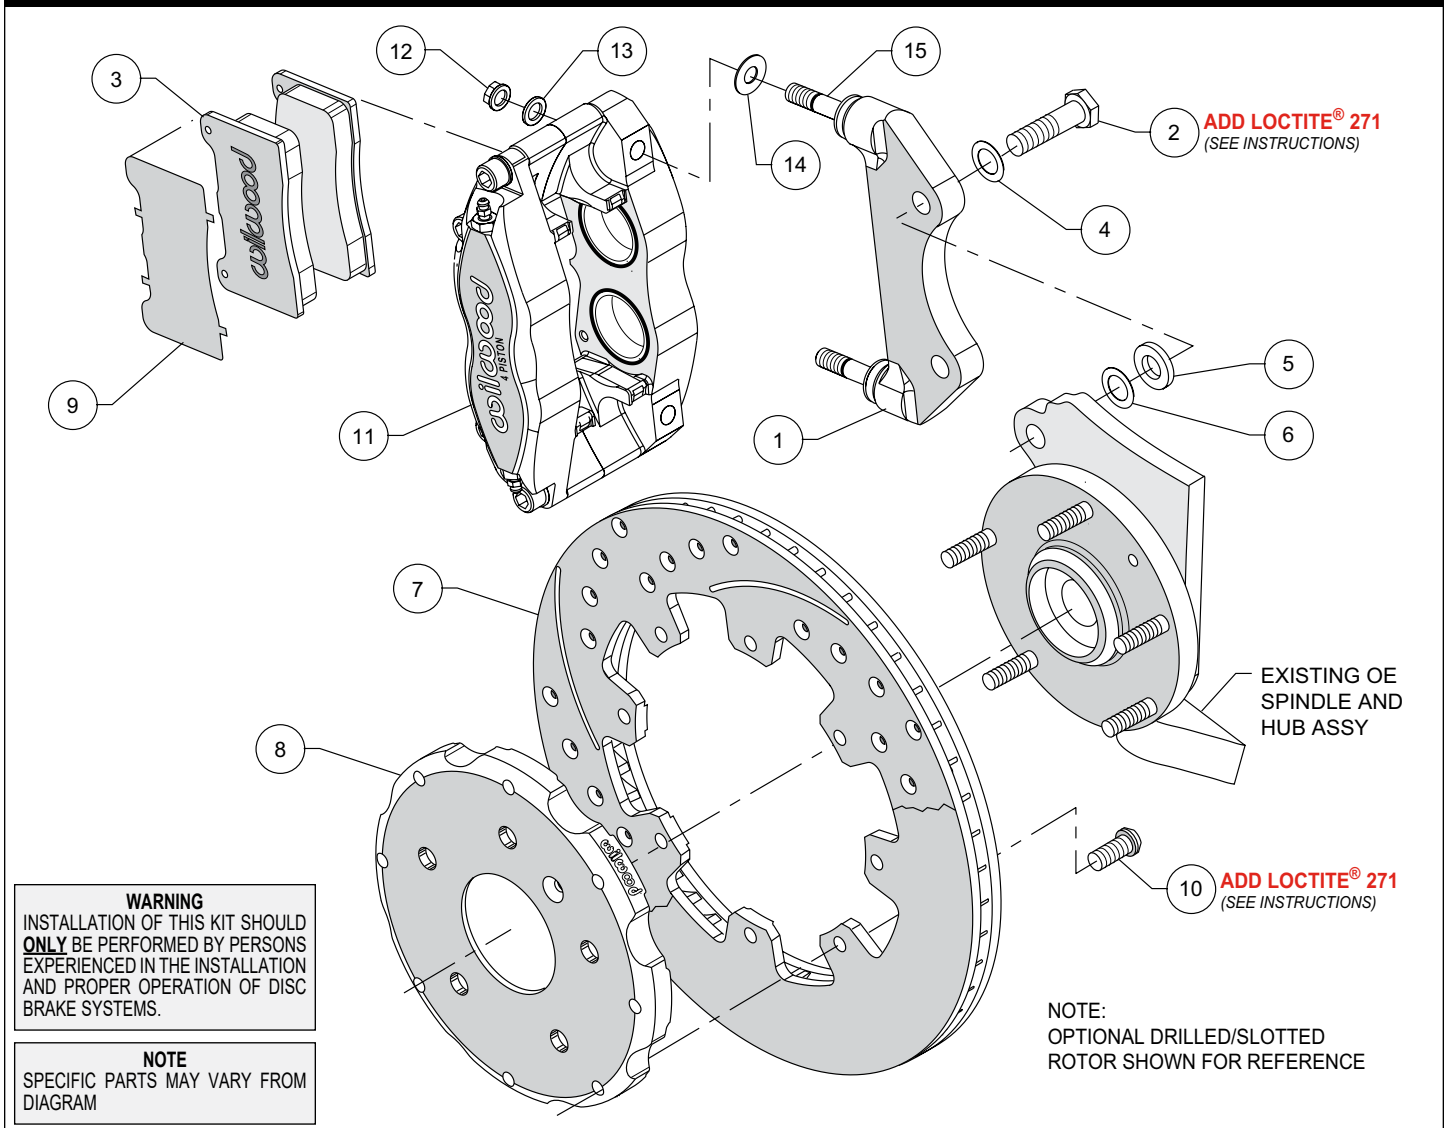

Figure 1. Typical Installation Configuration
- The caliper mounting bracket assembly (1) should be installed first with clean, dry threads on the mounting bolts. Install the bracket from the rear side of the spindle by sliding bolts (2) through washer (4). Place spacer (5), and washer (6) between the bracket (1) and the backside of the spindle (see Figure 1). The bracket must tighten squarely against the side of the spindle body. Inspect for interference from casting irregularities, machining ridges, burrs, etc. Use one thin shim (6) between the spacer and spindle during initial trial fitting.
- With the larger I.D. side of the rotor (7) facing away from the hat (8), attach rotor (7) to hat (8) using bolts (10) as shown in Figure 1. Using an alternating sequence, remove bolts one at a time, apply red *Loctite*® 271 to the threads, and torque to 25 ft-lb.
- NOTE:** *Please reference the caution statement at the beginning of the assembly instructions.* Install one shim (14) over each pre-installed stud (15) on the radial mount bracket (1). Slide the caliper (11) in place over the studs and rotors and install the washer (13) and lock nut (12) to hold the caliper in place. Snug the lock nuts (12) and check that the rotor (7) is centered in the caliper (11). Add or subtract .015" shims (6) as necessary between the spacer and the spindle to center the caliper (7).
- Remove the caliper quick-clip pad retainer from the caliper. Remove the protective material from the adhesive side of the anti-squeal shims (9) and place against the backing plate side of the brake pads (3) utilizing the contour of the backing plate as a guide. Secure material to backing plate by bending the four tabs over the edge of the backing plate. Slide the brake pads (3) with the shims into place. They should install easily without interference. Check that the brake pads are approximately .05" above the outside diameter of the rotor. Add or subtract shims (14) between the caliper and mount bracket to gain the proper alignment. Reinstall the quick-clip pad retainer.
- Once all clearances have been checked, remove the wheel, caliper, hat, and rotor from the spindle and hub. Secure the caliper mounting bracket (1) to the spindle using red *Loctite*® 271. Torque the bolts to 47 ft-lbs. Reinstall the hat and rotor assembly and again use several lug nuts to hold it in place. Reinstall the caliper and torque the caliper nuts (12) to 30 ft-lb.